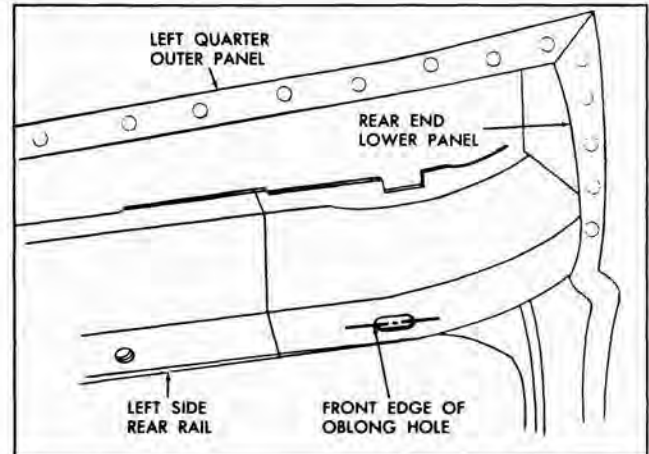

Fig. 12-7 Vertical Reference Point ("I")
i. Center front edge of oblong hole in bottom surface of compartment pan side rear rail (located slightly forward of rear end lower panel) Fig. 12-7.